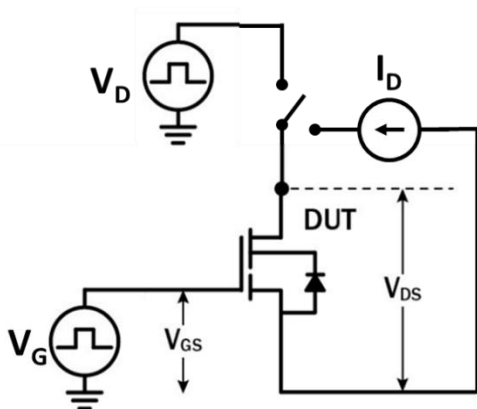

Figure 18. Dynamic $R_{DS(on)eff}$ Test Circuit
g. Dynamic $R_{DS(on)}$, 100% tested; see Figures 18 and 19 for conditions